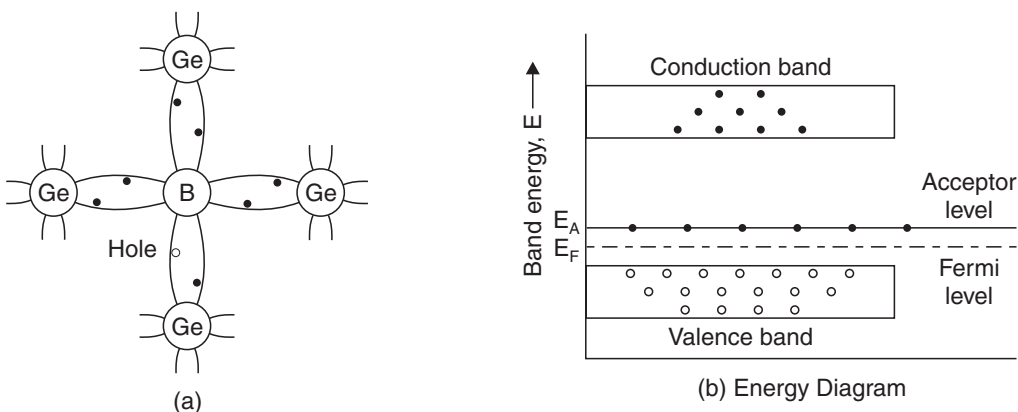

Fig. 6. P-type semiconductor.
- *P-type extrinsic semiconductor* can be produced if the impurity atom has *one valence electron less* than the semiconductor atom that it has replaced in the crystal lattice. This impurity atom cannot fill all the *interatomic bonds*, and the free bond can accept an electron from the neighbouring bond ; leaving behind a vacancy of *hole*. Such an impurity is called an *acceptor impurity (or acceptor)*. Fig. 6 (a) shows structure of *P-type semiconductor (Germanium and Boron)*.
- Since the concentration of holes in the valence band is more than the concentration of electrons in the conduction band, Fermi level shifts nearer to the valence band [Fig. 6 (b)]. The acceptor level lies immediately above the Fermi level. *Conduction is by means of hole movement at the top of valence band, the acceptor level readily accepting electrons from the valence band*.